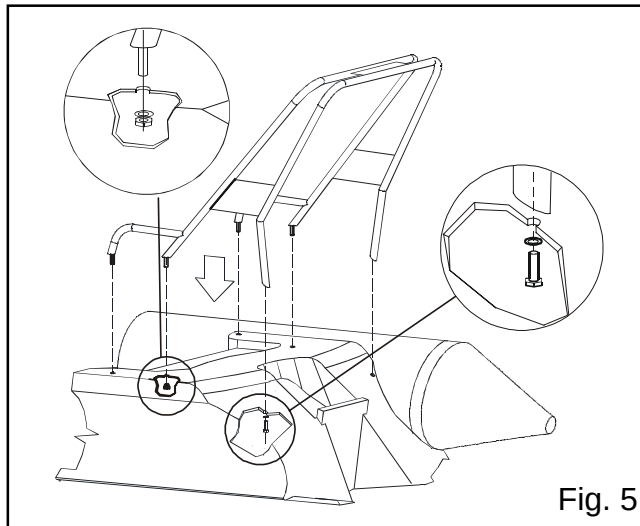

Fig. 5
- fix arc by means of the bolts M12X40 , nuts M12 and washers from the complete set (see Fig. 5);